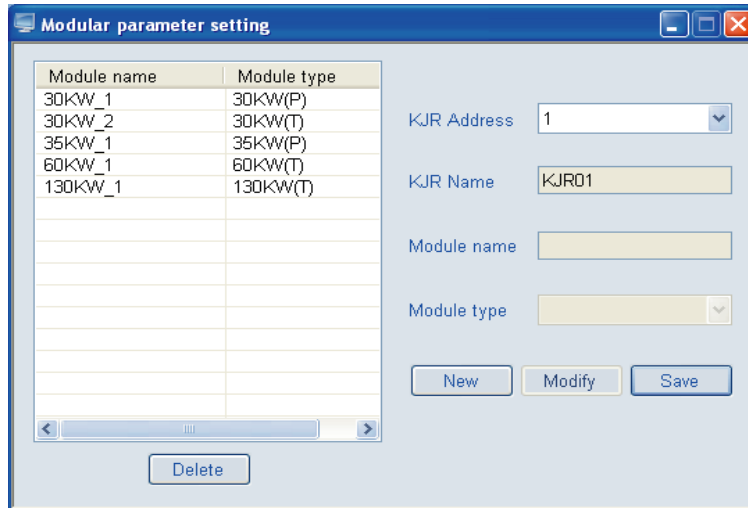

Fig.4-25
② Click the “Module parameter setting”, a window as Fig.4-25 will pop up: add module group under connect with the wired controller